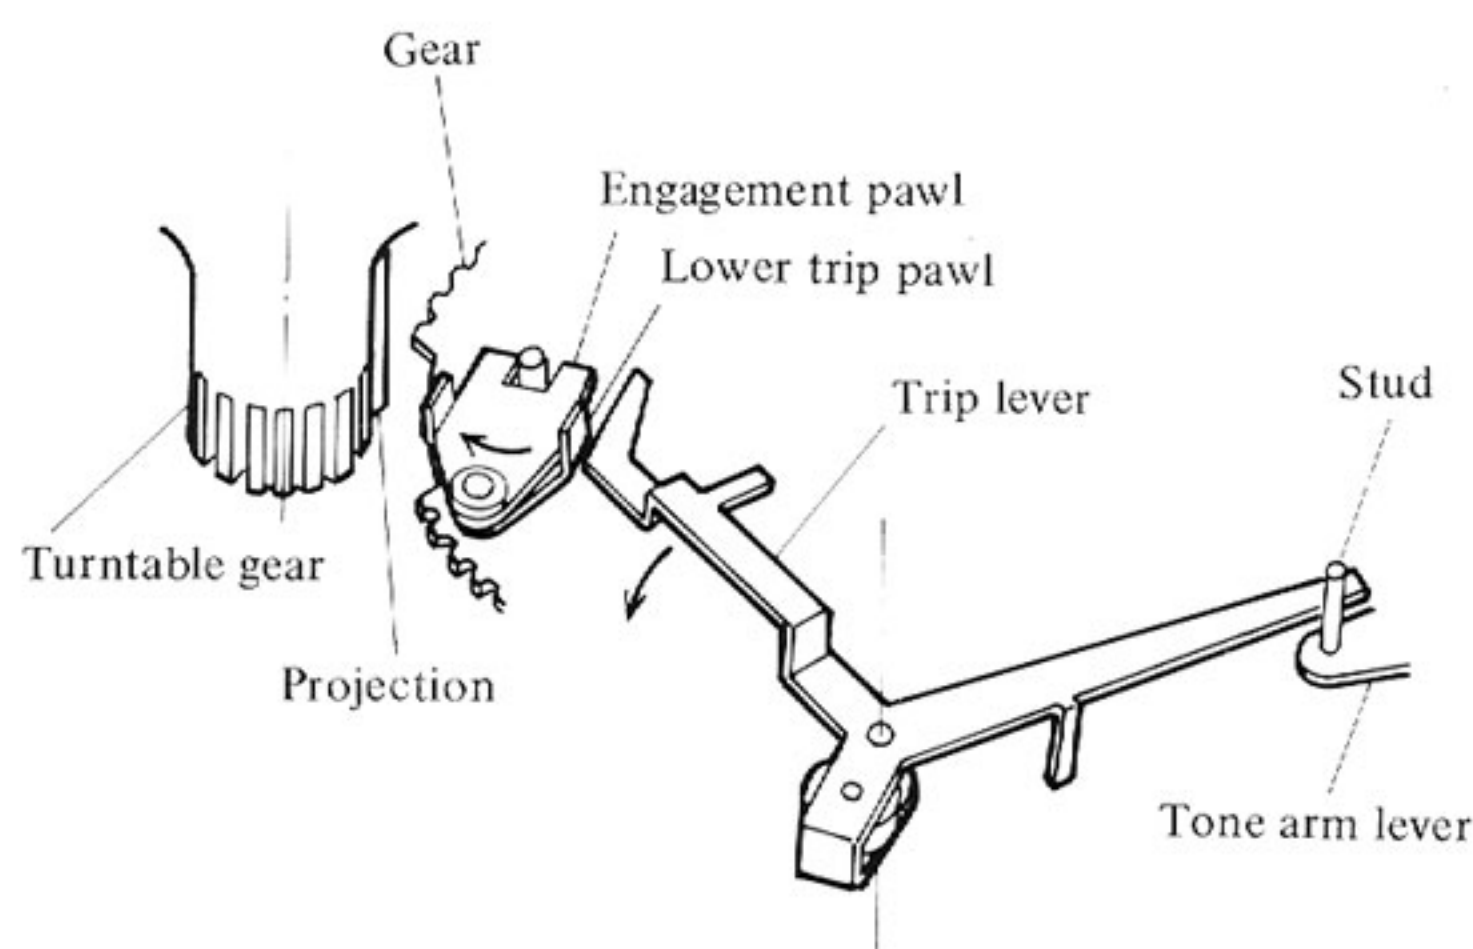

Fig. 6
- 1) As illustrated in Fig. 6, the untoothed portion of the main gear faces toward the platter gear during playing and as a result, the main gear is free from the rotating platter gear. The projection is also free from the engagement pawl.
- 5) As the gear makes a complete turn, both gear and platter gear are positioned as illustrated in Fig. 6. As a result, the gear will not turn.